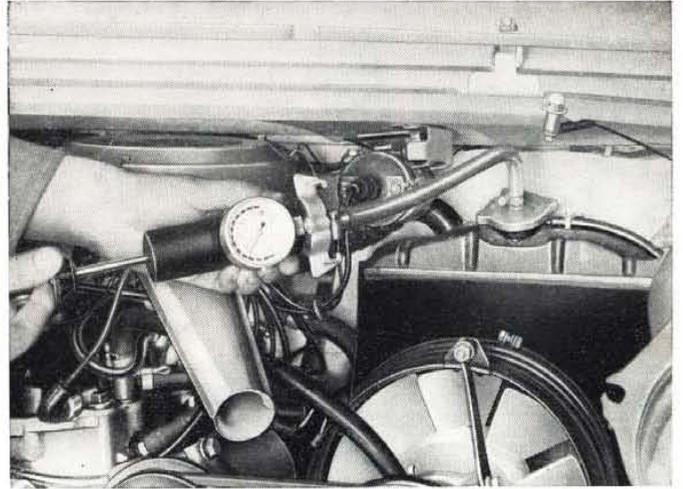

Fig. 129 - Checking leakage of cooling system by means of tester Ap. 5066.
- if the cap is serviceable, affix the tester to the radiator as shown in fig. 129;